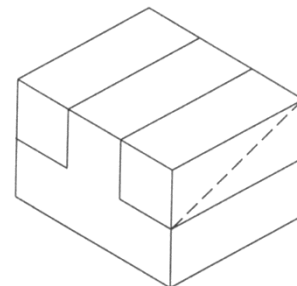

Figure 6.13: Views on Each Side
- (2) Now the views are drawn on the respective side of the isometric parallelepiped keeping appropriate relationship with each other (Figure 6.13). In drawing views the unnecessary lines may be avoided otherwise, the drawing will be clumsy. The horizontal lines of the view will be parallel to the isometric axes  $OB$  and  $OC$  while the vertical lines will be parallel to the isometric axis  $OA$ . Each line will be thin.